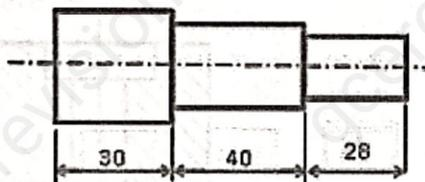

Figure 8
13. Identify the type of dimensions on the piece shown in figure 8 below.